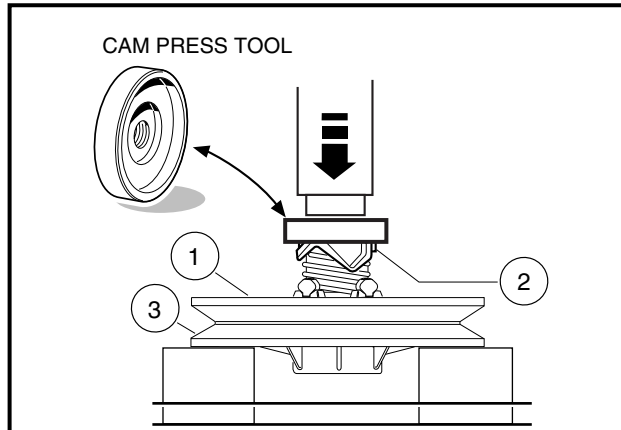

Figure 17-19 Cam Press Tool
- 5.1.1. Place the clutch assembly in a press and position the cam press tool (CC 101809101) on the cam as shown (**Figure 17-19, Page 17-16**).
- 5.1.2. Hold the fixed face assembly (3) and rotate the moveable face assembly (1) one-third turn clockwise, then press the cam (2) onto the fixed face assembly (**Figure 17-19, Page 17-16**).
- 5.2.4. Hold the clutch assembly and cam installation tool together and place the fixed face down on spaced blocks (**Figure 17-19, Page 17-16**).